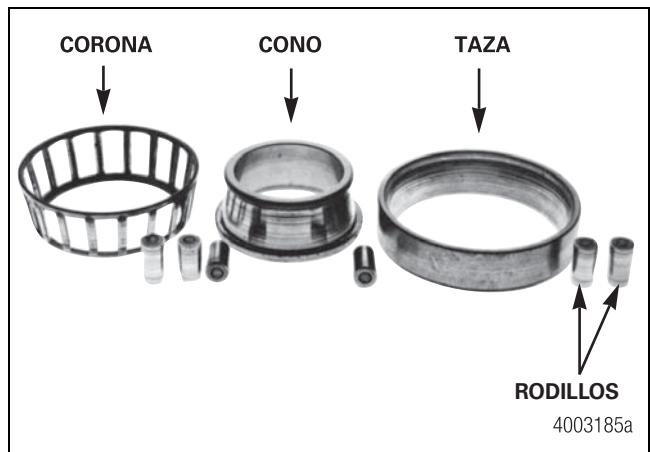

Figura 4.15
F. The cage, cup, cone or rollers are grooved. Figura 4.15.